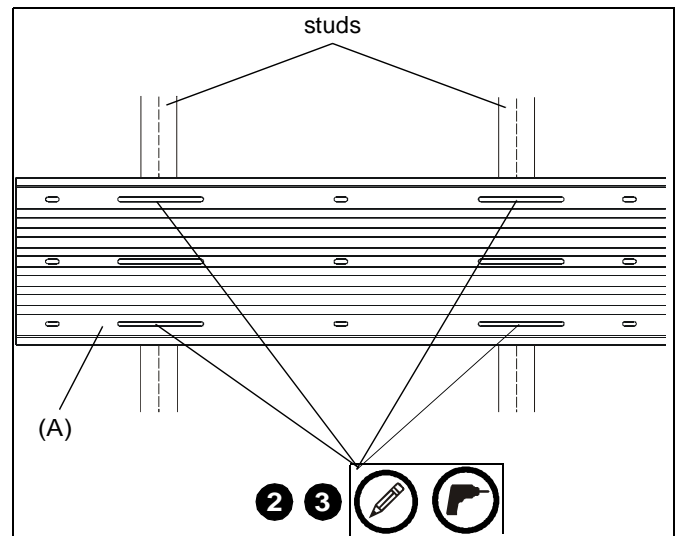

Figure 22
2. Draw a vertical line down the center of the studs to be used. (See Figure 22)
3. Using wall track accessory (A) as a template, mark location of mounting holes on wall. Make sure wall track accessory is level. (See Figure 22)
4. Drill 7/64" holes at each marked location. (See Figure 22)